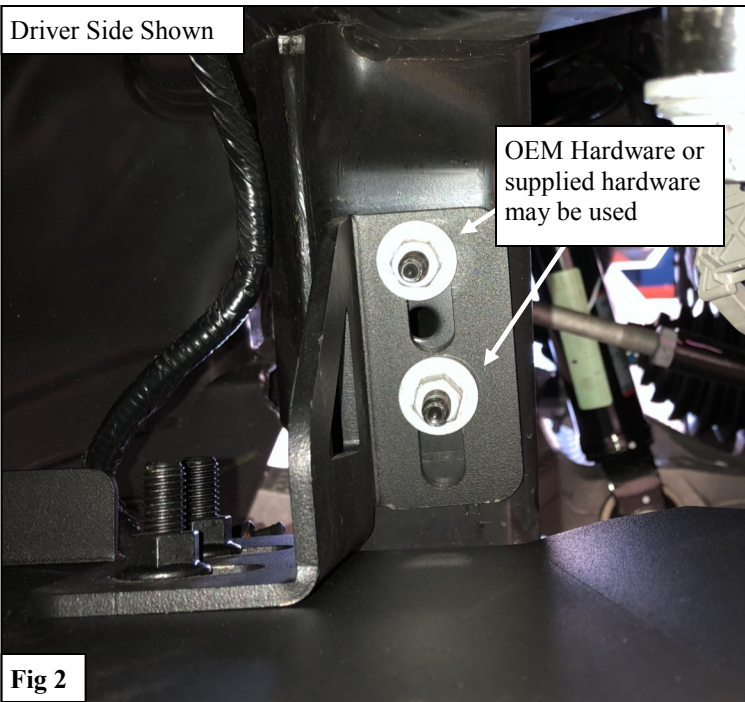

Fig 2
3. Install the Frame Brackets (2,3) to the studs that originally held the active valence using the supplied M8 flat washer, lock washer, and hex nut. See **Figure 2**.